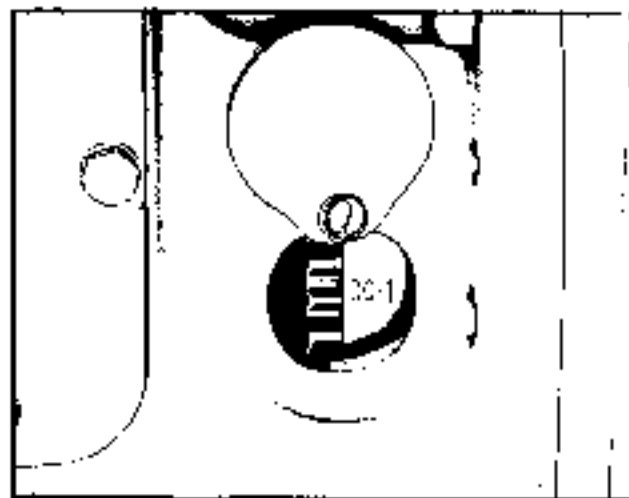

Fig. 1-32. Flywheel Timing Mark
g. Before reinstalling the flywheel (29, figure 2-4), make certain the pilot-bearing retainer is in place on the end of the crankshaft. Turn the crankshaft to the number 1 cylinder and number 4 cylinder crankshaft journals are straight up. The DC-1 mark (figure 1-32) should be in line with the opening in the side of the crankcase.